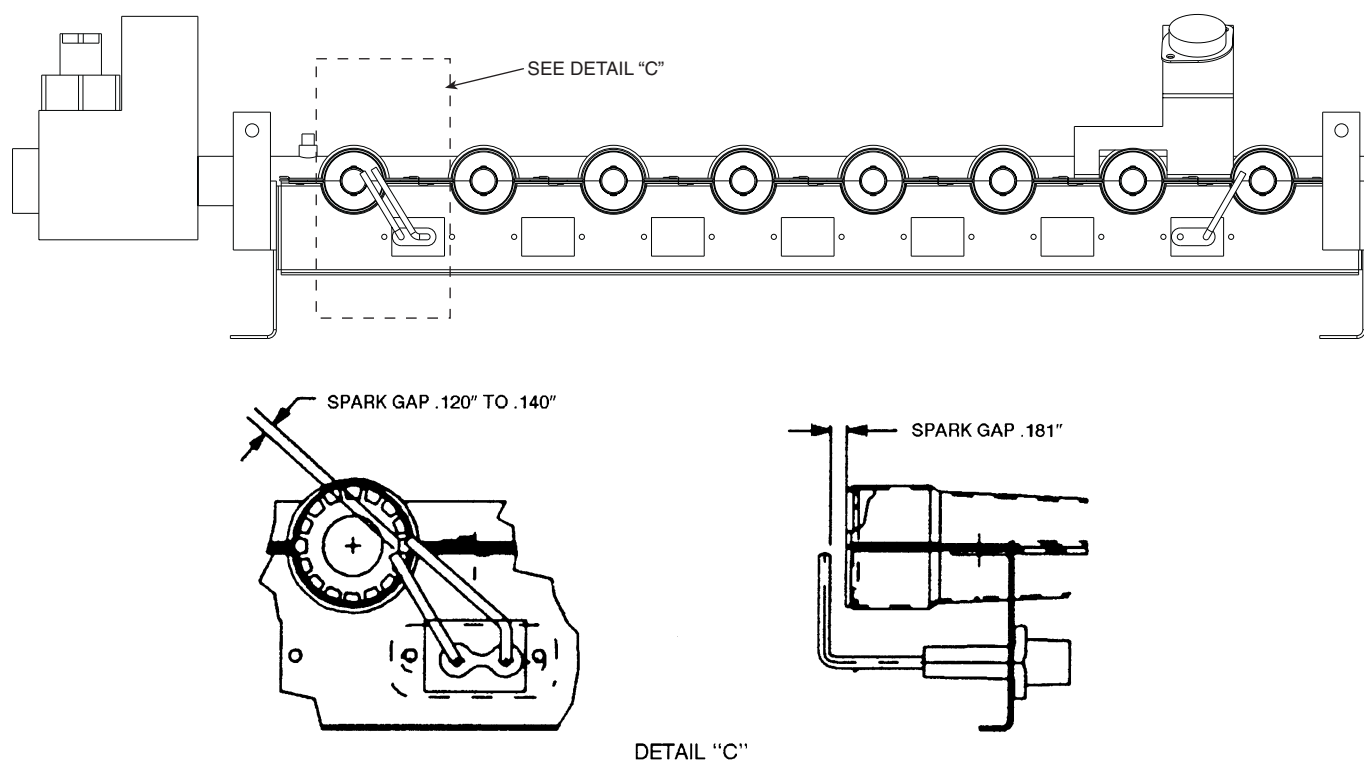

Fig. 28 — Spark Gap Adjustment (48HG Only)
4. Adjust spark gap. See Fig. 28.